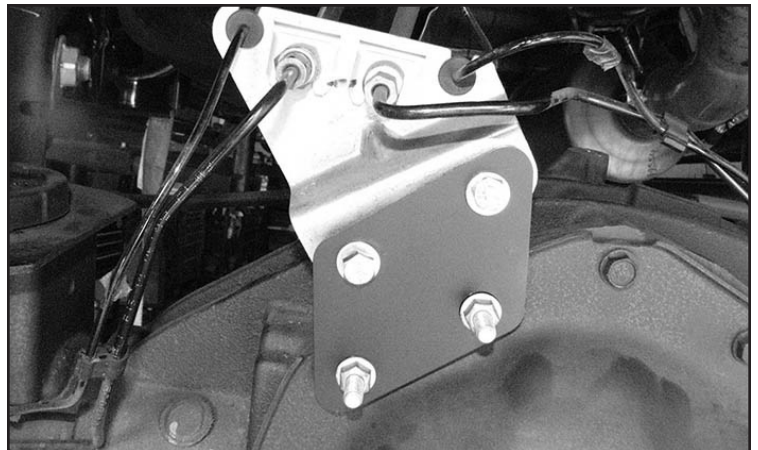

FIGURE 74 - STEP 65
65. Locate and install FT44307 (Rear brake line bracket) using the supplied 5/16" hardware from Bag 4 of the hardware kit. Torque to 29 ft-lbs. **SEE FIGURE 74**